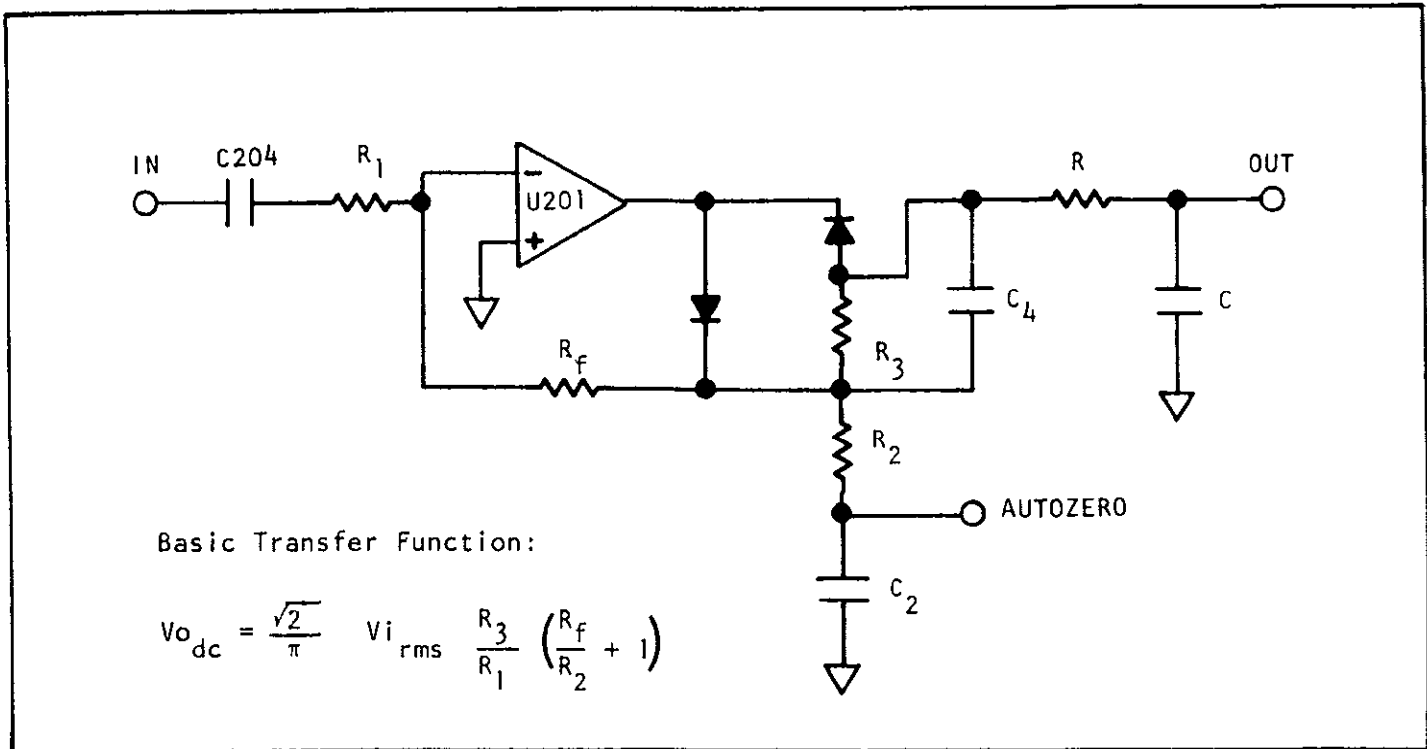

FIGURE 5-4. Simplified Schematic of AC/DC Converter.
1) The basic transfer function of the AC/DC converter is as shown on the simplified schematic (Figure 5-4). The resistor values were selected so the $1V_{ACrms} \text{ in} = -1V_{DC} \text{ out}$. Above 3 volts, feedback resistance (R_f) is reduced to keep the output always less than $-3V_{DC}$. The dc output is a half-wave rectified sine wave, and the converter is average responding, calibrated to the rms value of a sine wave.